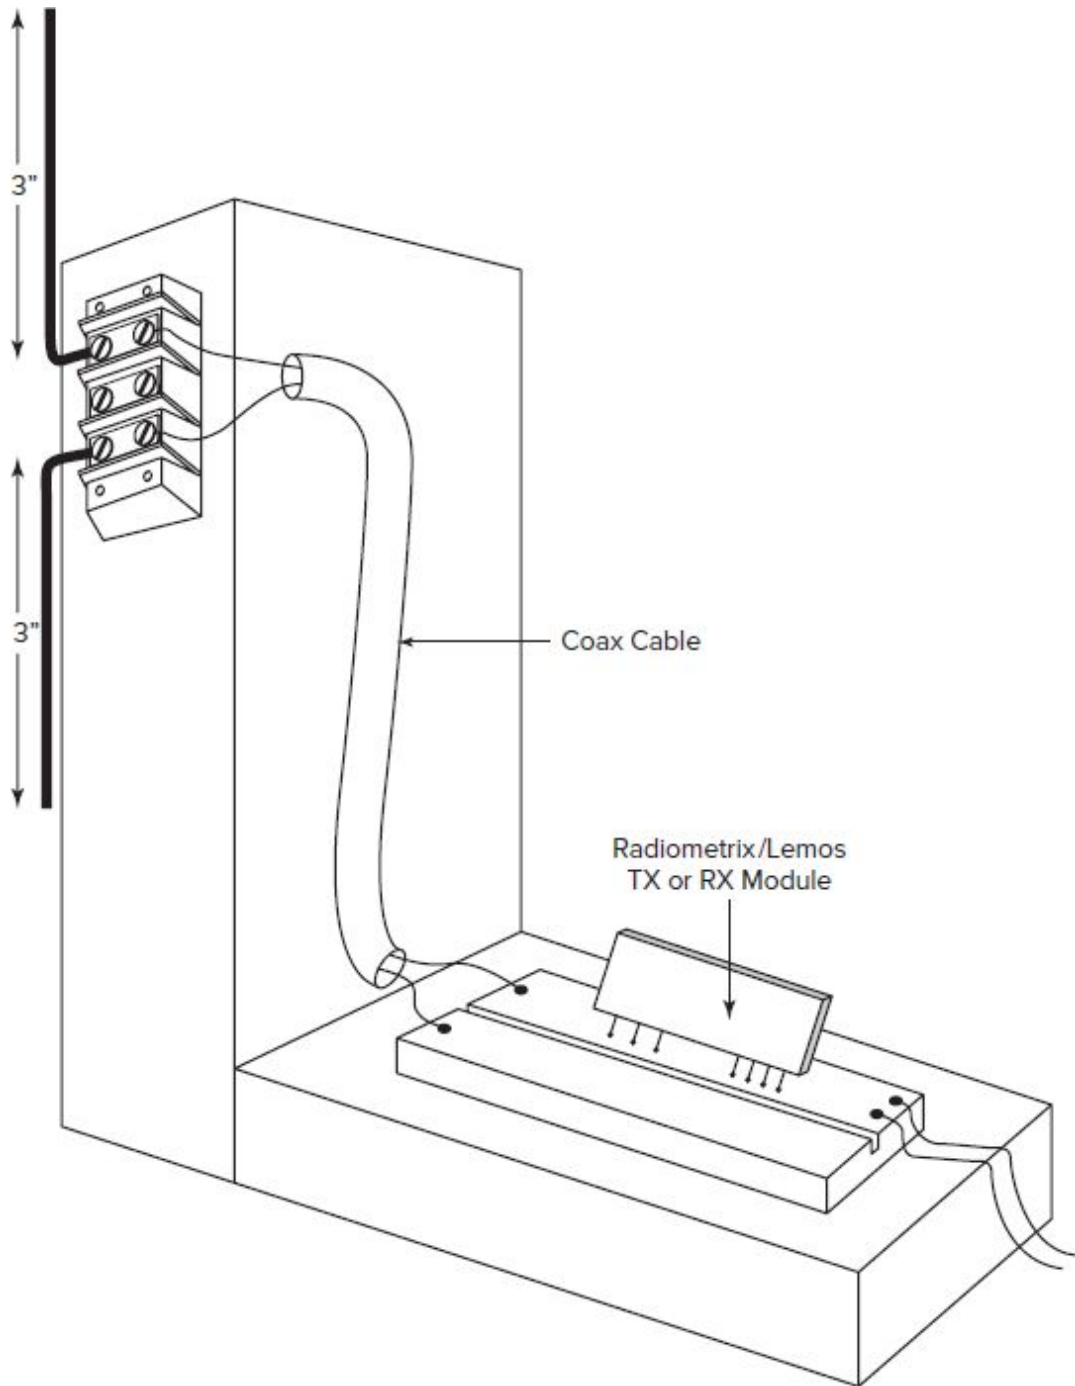

Fig. 16-7 Mounting the RX antenna vertically.
10. Unscrew the three-screw terminal strip from the top of the wooden assembly and rotate it 90 degrees to create a vertical dipole. Reattach the terminal strip to the vertical wooden piece as shown in Fig. 16-7.